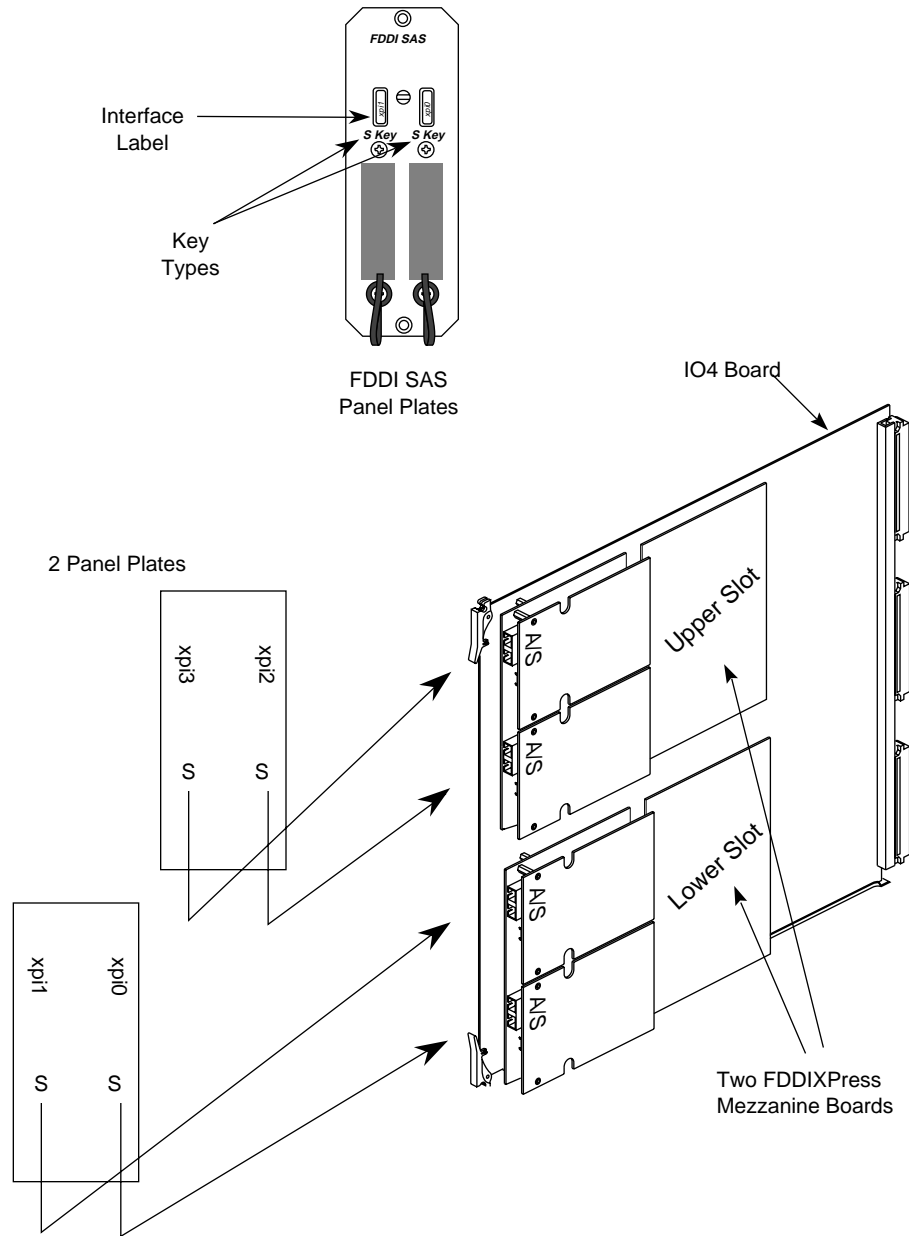

Figure 4-2 Connecting SAS Internal Cable Assemblies to Board
6. Connect the internal cable assembly to the board's SC-duplex connectors, as illustrated in Figure 4-2. Take care to connect the cable from the left-hand side of the panel plate to the SC-duplex connector that is closest to the top edge of the installed FDDIXPress board; connect the cable from the right-hand side of the panel plate to the bottom-most SC-duplex connector.